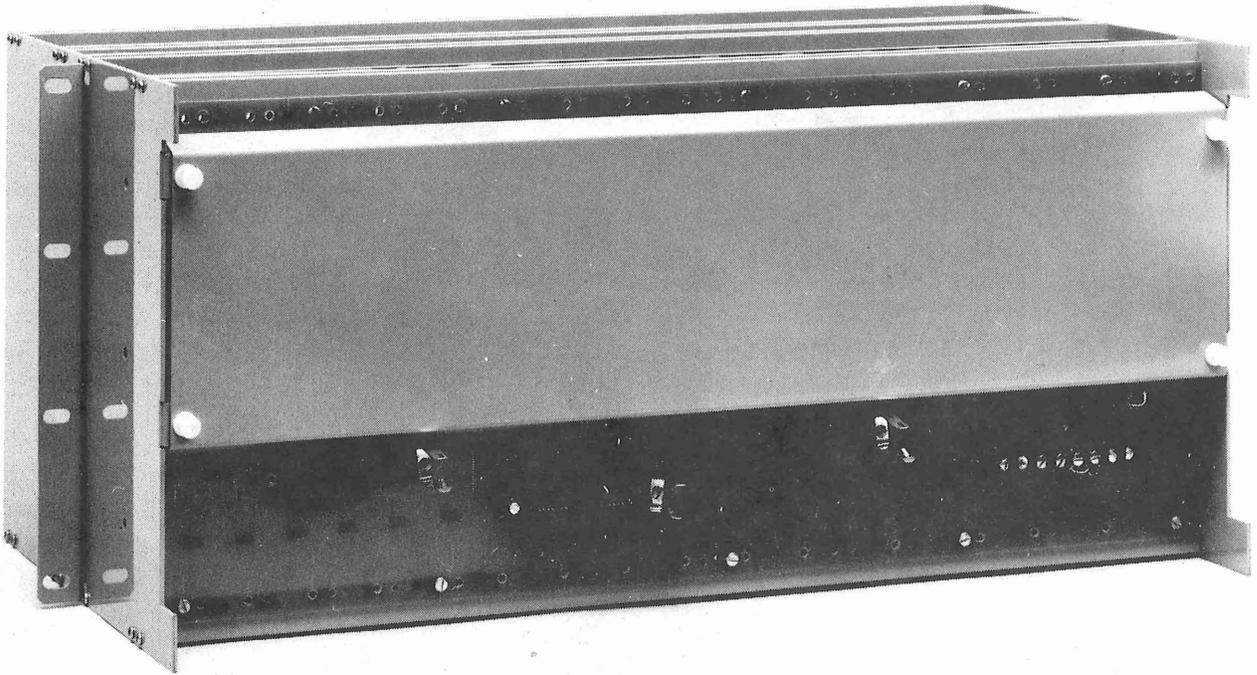

Fig. 4—1A Type Data Station Selector—Rear View
1.09 The rear view of the DSS is shown in Fig. 4. Three 50-pin connectors provide the interface with the 2- and 4-wire lines. These mate with a KS-16689, L3 plug, or equivalent available on connector cables ED-73435-20, G8 or A25D (customer premises only) that can be ordered to any required length. Terminal strip on the right side is used to input one -48V ground and two -48V battery wires and output one signal ground and two alarm wires. The cover shown protects the printed wiring board connector terminals and does not have to be removed to install connector cables or wiring to the terminal strip.